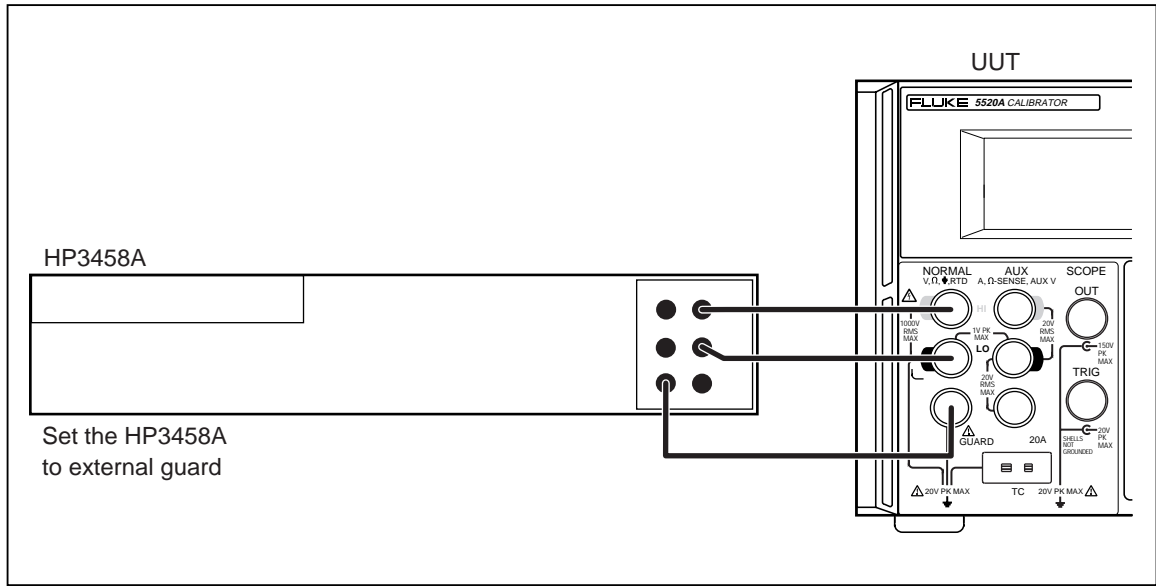

Figure 3-12. Two-Wire Resistance Connection
7. Connect the UUT to the DMM in a 2-wire ohms configuration as shown in Figure 3-12.
10. Connect the UUT to the DMM in a 2-wire ohms configuration as shown in Figure 3-12.
13. Connect the UUT to the DMM in a 2-wire ohms configuration as shown in Figure 3-12.
16. Connect the UUT to the DMM in a 2-wire ohms configuration as shown in Figure 3-12.